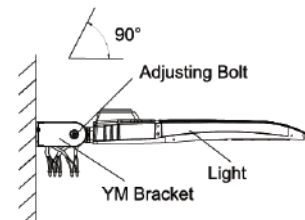

Figure 20
Step 3: Connect the fixture to the bracket and tighten the screws; connect the wires properly and put them into junction box.(Figure 20)
Notice: Adjustable angle is 0-90°(Figure 20)